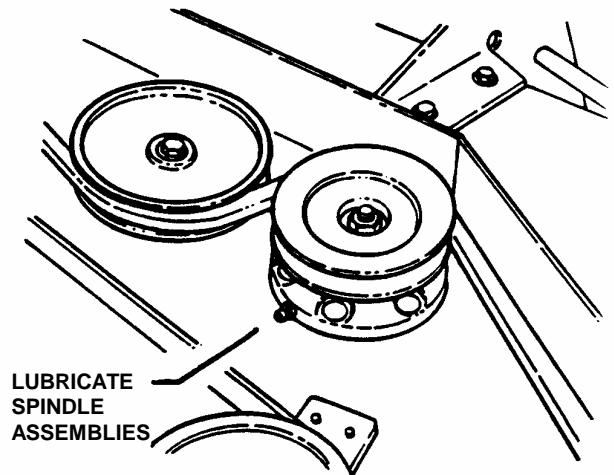

FIGURE 3.4
- Lubricate with Kendall NLGI No. 2 lithium grease or equivalent, from a grease gun until grease purges from vent located on spindle housing underneath deck. See Figure 3.4.